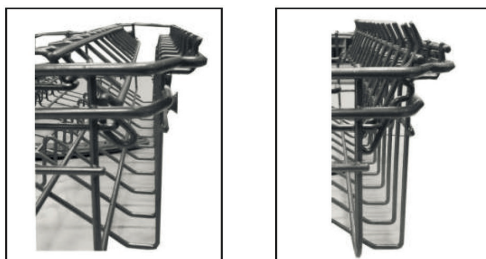

Fig. 11
- You can tilt the stand and adjust it in height (Fig 11).
- If it is necessary, unscrew and remove the spray arms (Fig. 11). Wash them under running water and then place them back.